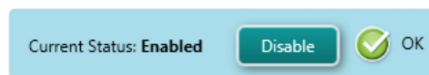

Figure 33. Successful network connection status.
- 4 Once all information has been entered, click **Enable**. Successfully configuring a LAN results in a **Success** message on the XFp Analyzer. (Figure 33)